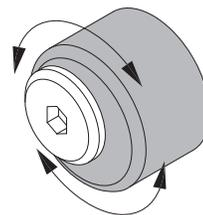

**Figure 3C**
2. Set tablets into slots. **Figure 3C.**